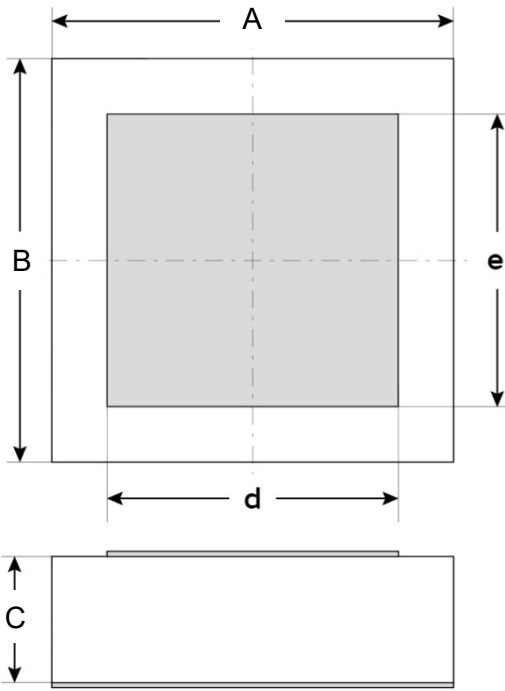

Figure 9 - Package outline 22nF Capacitor
(1) Other film frame carrier are possible on request
(2) Au = TiWAu (0.3µm) / Au (3µm)
(3) Refer to Figure 9
(4) missing capacitors can reach 0.5%